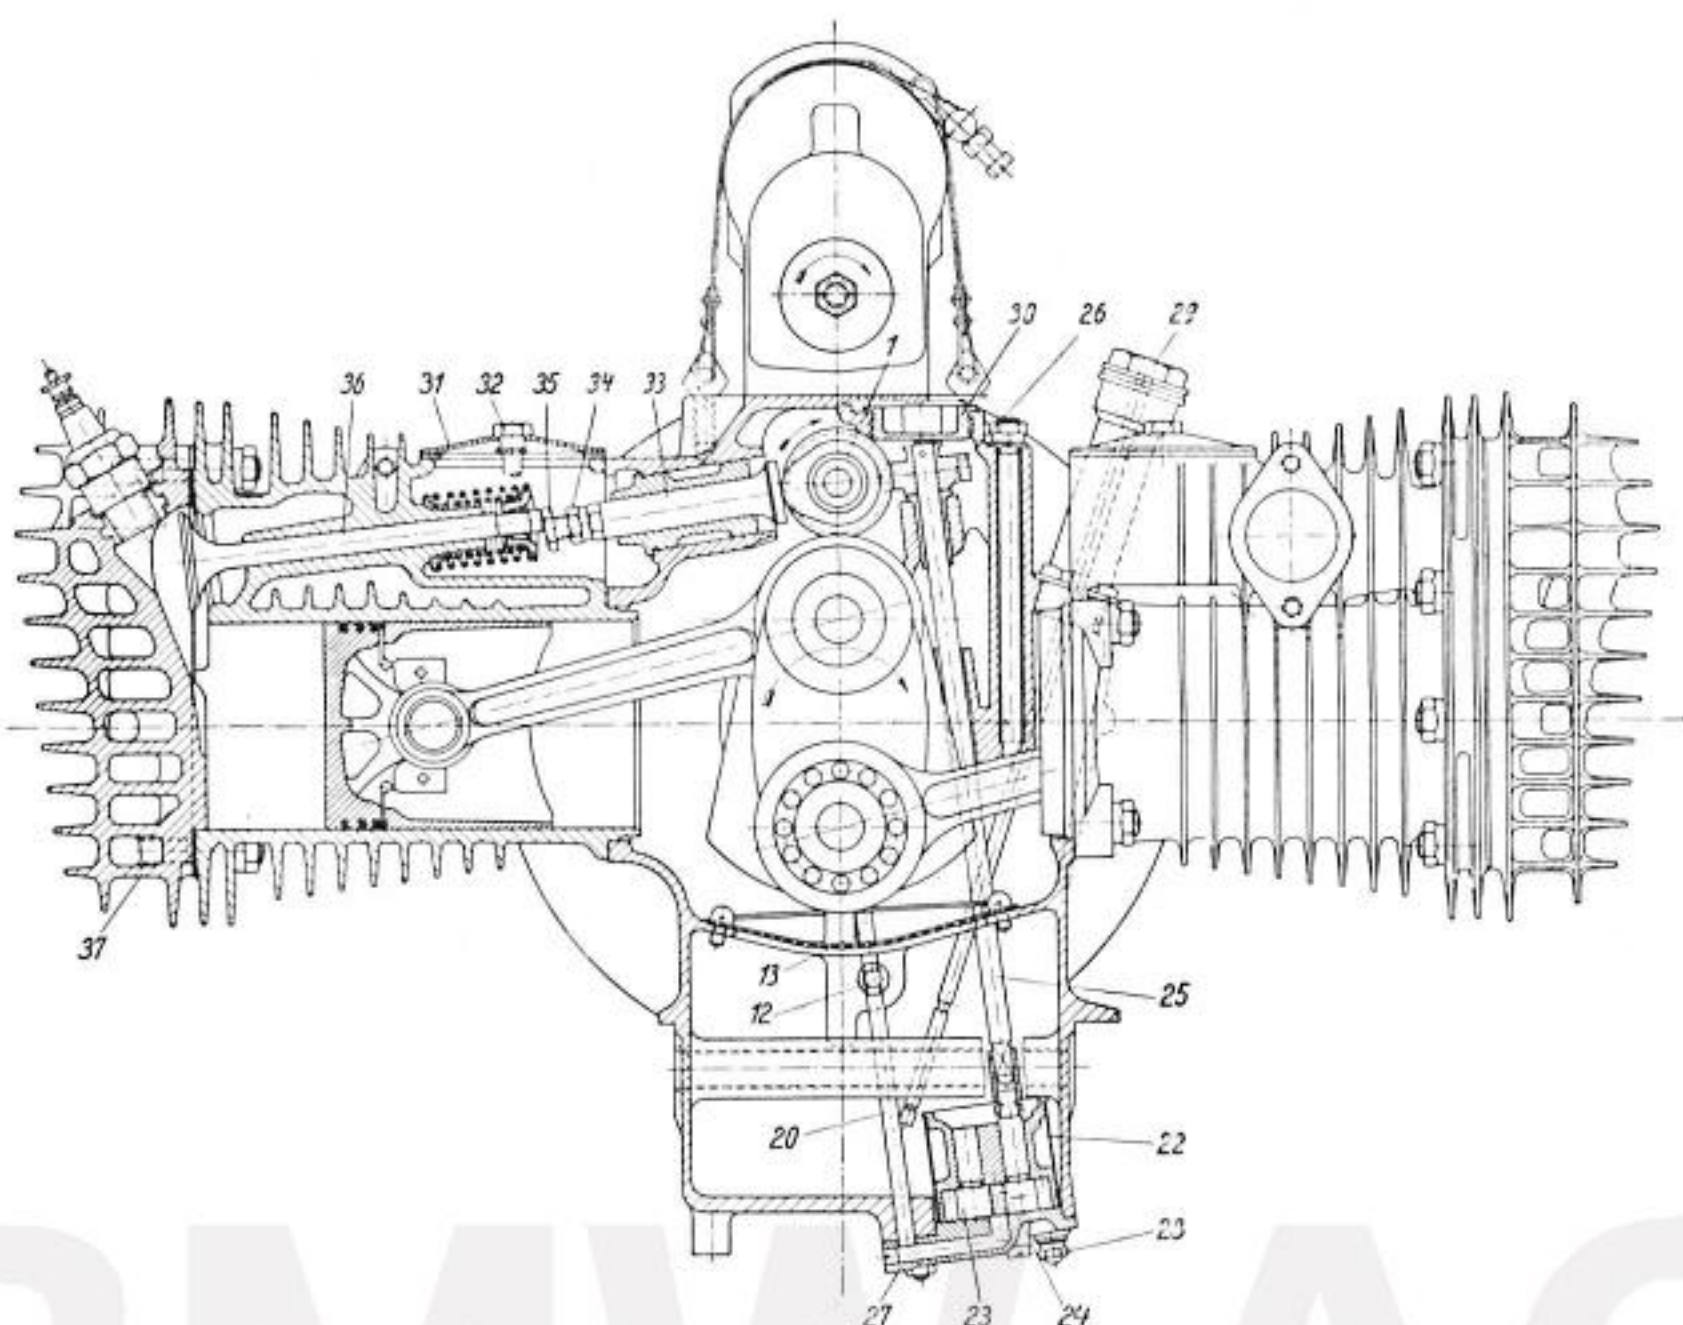

Fig. 20 Touring engine with partial cross section through the middle of the cylinder
**a) Valves of the R 12 model** (fig. 20). The valves are completely enclosed, located at the side of the cylinder and are operated from the camshaft 1 by enclosed tappets 55. Any oil that might leak out at the tappets is conducted back into the casing through a return flow bore, so that any escape of oil outside the engine is made impossible. Through a detachable protective cover the ends of the valve stem and the tappets are easily accessible for the purpose of adjustment of the valve clearance.
A rotary geared pump (fig. 20) built in the lower part of the crankcase sucks the oil through a filter 22 by the action of the two gear wheels 23 and 24, the latter of which is driven by means of a shaft 25 and worm wheel 26 by the worm on the camshaft 1.
Part of the oil is conducted by the oil pump into the oil filter 17 through rising pipe 20 (fig. 20), oil distributing pipe 12, and oil jet 21 (fig. 13) and leaves it completely purified to be conducted back to the oil pump through the oil well.
**Important. Before dismantling the halves of the crankcase the screw plug 30 must be removed; then pull out the driving shaft 25 with worm wheel 26 by means of flat pliers (fig. 20).**